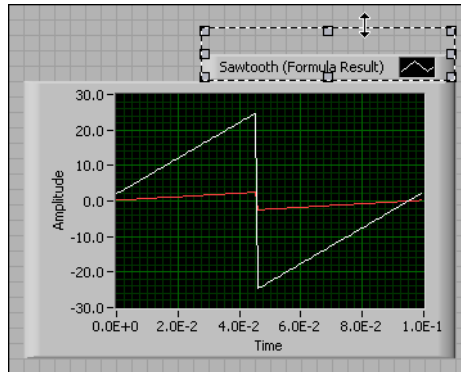

Figure 1-11. Expanding a Plot Legend
2. When a double-headed arrow appears, shown in Figure 1-11, click and drag the border of the plot legend to add one item to the legend. When you release the mouse button, the second plot name appears.